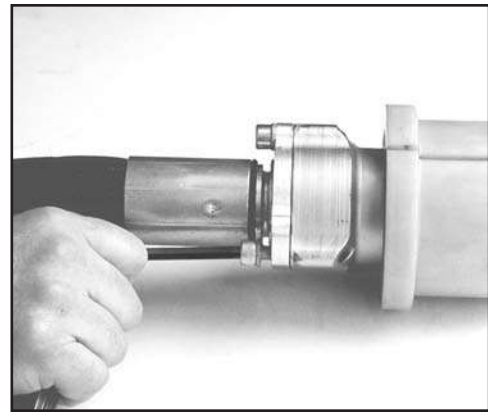

FIG. 55: TIGHTEN 3 SOCKET HEAD CAP SCREWS
9. Screw in the 3 socket head cap screws with lock washers and evenly tighten them using the allen wrench (see Fig. 55).